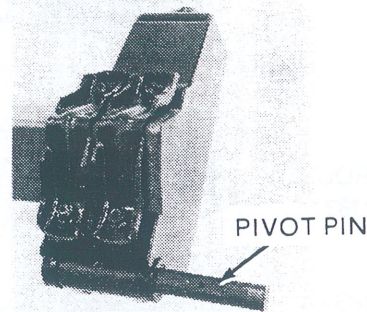

Figure 33
- (e) Remove pivot pin from casting. See Figure 33.